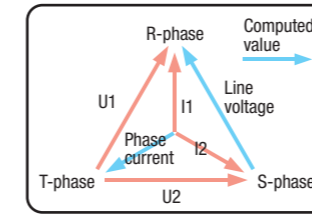

Figure 1 Line voltage/phase current
- Line voltage/phase current: Line voltage and phase current that are not measured are computed in the three-phase three-wire system (Figure 1).